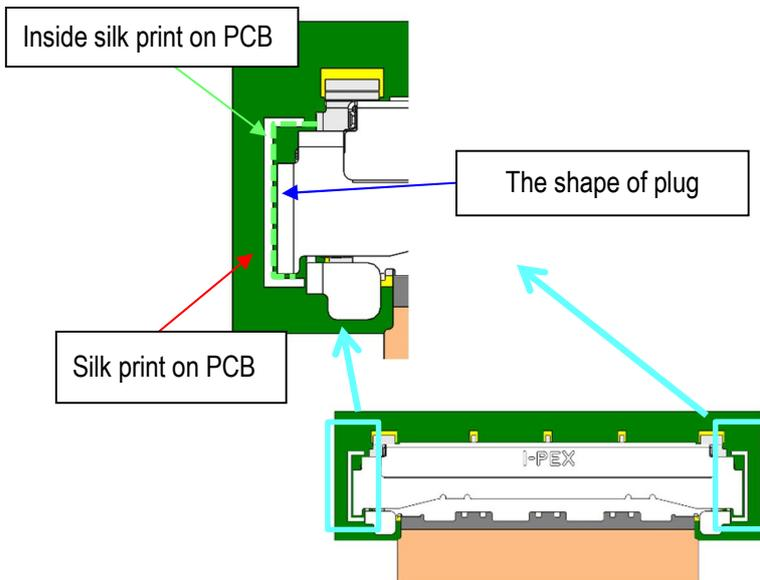

Fig.4 With Lock cover
• As shown in Fig.4 and 5, Please set it so that both ends of PLUG are located within the "[]" of silk print on PCB.